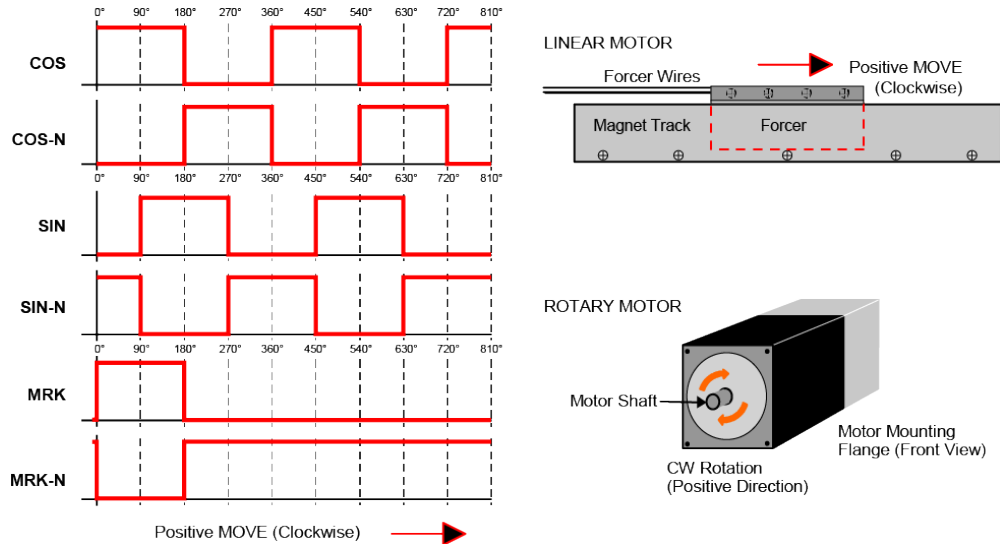
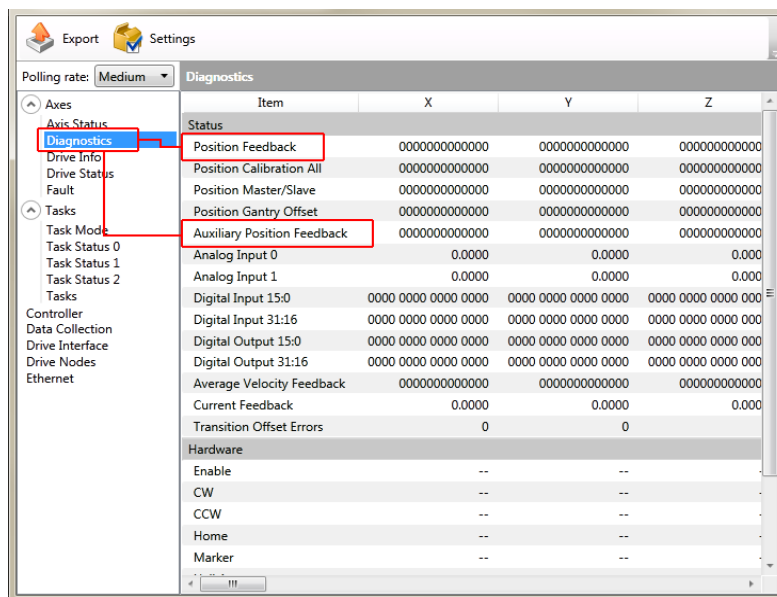

Figure 2-6: Encoder Phasing Reference Diagram (Standard)
Figure 2-7: Position Feedback in the Diagnostic Display
Incorrect encoder polarity will cause the system to fault when enabled or when a move command is issued. Figure 2-6 illustrates the proper encoder phasing for clockwise motor rotation (or positive forcer movement for linear motors). To verify, move the motor by hand in the CW (positive) direction while observing the position of the encoder in the diagnostics display (see Figure 2-7). The Motor Phasing Calculator in the Configuration Manager can be used to determine proper encoder polarity.
**NOTE:** Encoder manufacturers may refer to the encoder signals as A, B, and Z. The proper phase relationship between signals is shown in Figure 2-6.